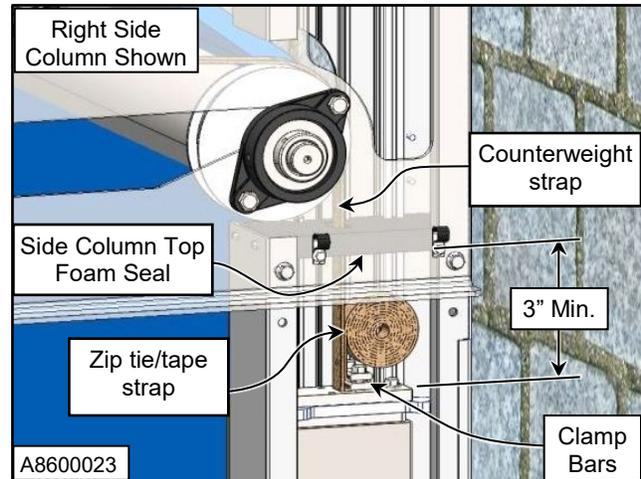

Figure 44
6. Loosen the clamp bars that secure the strap to the counterweight. (See Figure 44)
IMPORTANT: *The 8 to 10 in. mounting height for each counterweight, as indicated in Figure 44, is adequate for most Turbo-Seal Insulated doors. However, for extra-wide or -short doors, the counterweights may have to be adjusted closer to the bottom of the side column. Also, the guides on the counterweight must be properly positioned in the side column.*